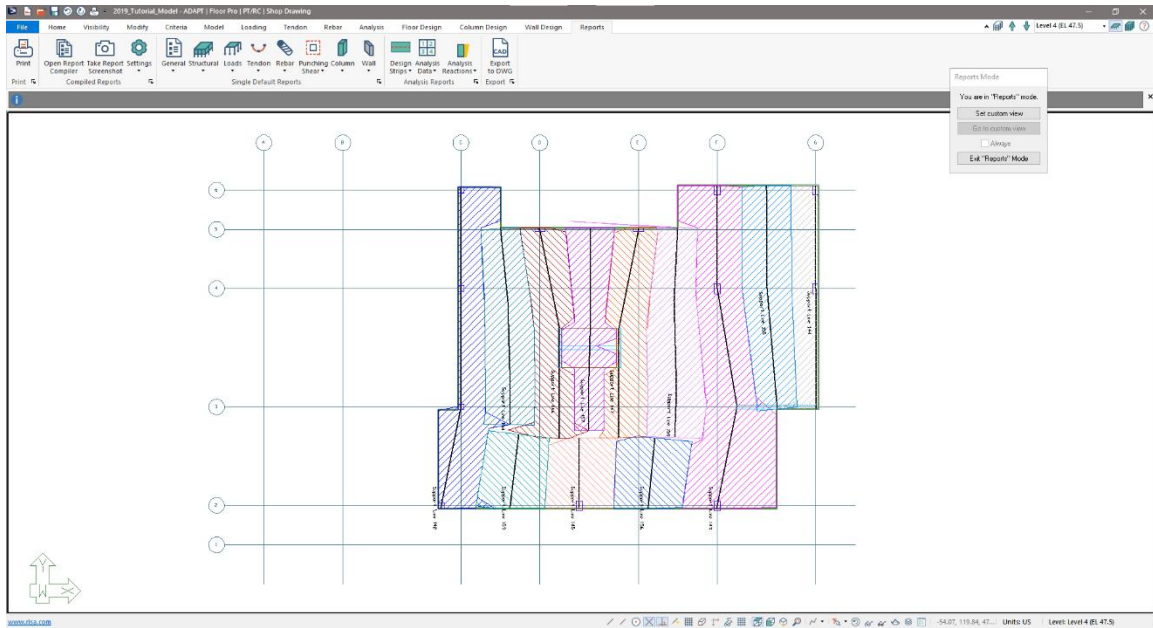

Figure 10-18
- Click *OK* on the next window that opens to view the report. The user's screen should appear similar to **FIGURE 10-18**.